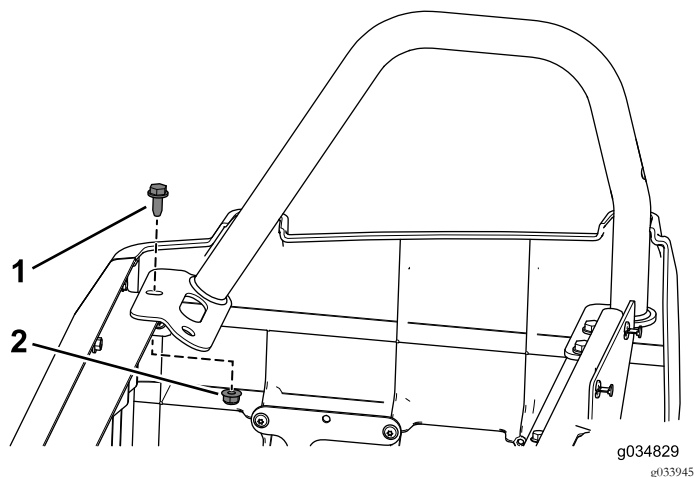

Figure 53
1. Remove the front flange bolt and flange nut on the right hip restraint (Figure 53).